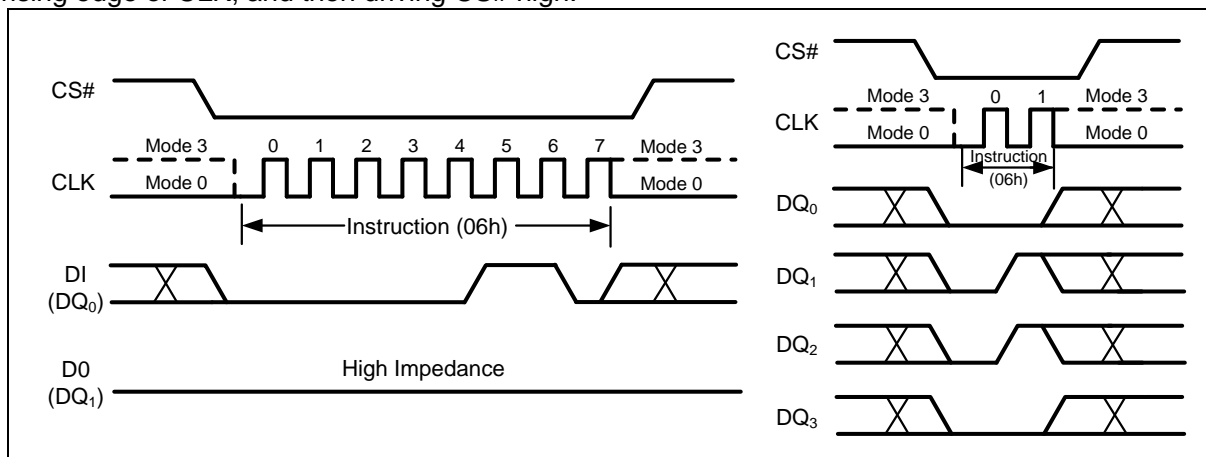

Figure 12 Write Enable Instruction for SPI Mode (left) or QPI Mode (right)
The Write Enable (WREN) instruction (Figure 12) sets the Write Enable Latch (WEL) bit in the Status Register to a 1. The WEL bit must be set prior to every Page Program, Quad Page Program, Sector Erase, Block Erase, Chip Erase, Write Status Register, Erase/Program Security Sectors and Block/Sector Lock/Unlock instruction. The Write Enable (WREN) instruction is entered by driving CS# low, shifting the instruction code “06h” into the Data Input (DI) pin on the rising edge of CLK, and then driving CS# high.